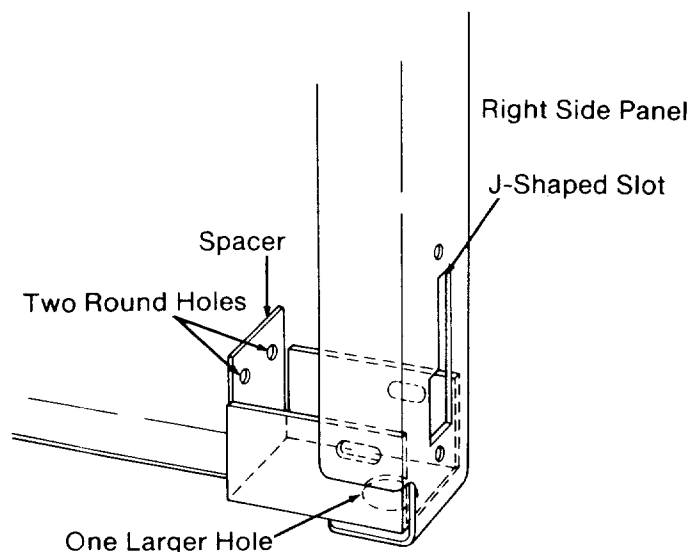

Fig. 50
12. Put a *spacer* inside the *right side panel* as shown. The side of the *spacer* with two round holes should be opposite the J-shaped slot in the *side panel*, and the side with one larger hole should be on the bottom. (Figure 50)
15. Put a *plastic cover* over the J-shaped slot in the *side panel*. (Figure 50)